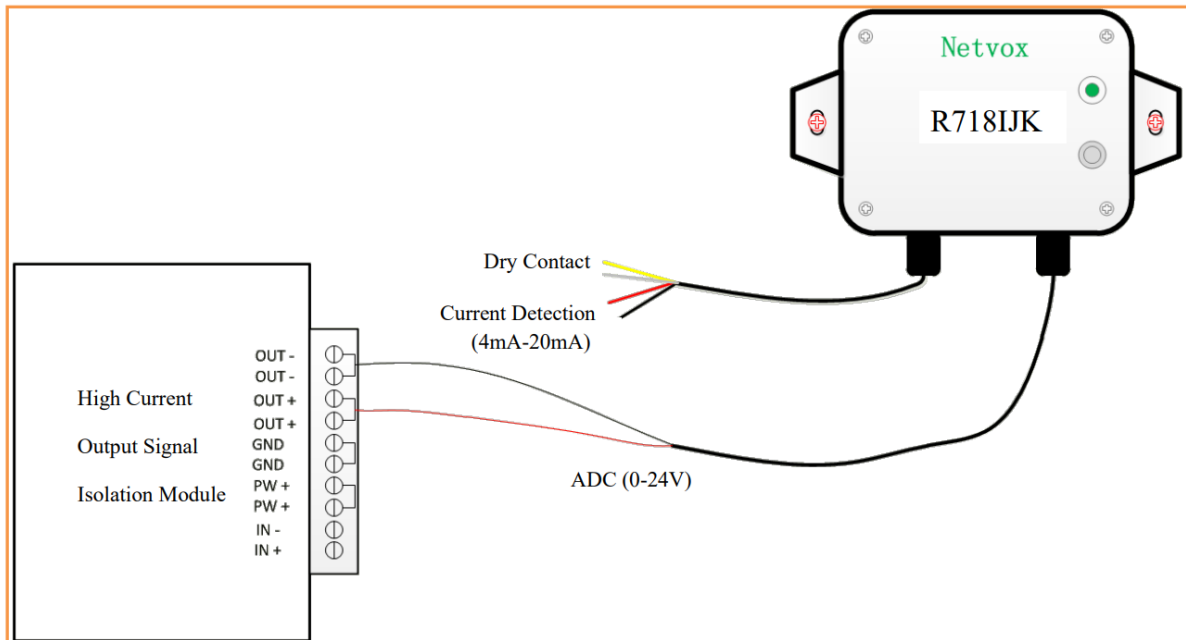
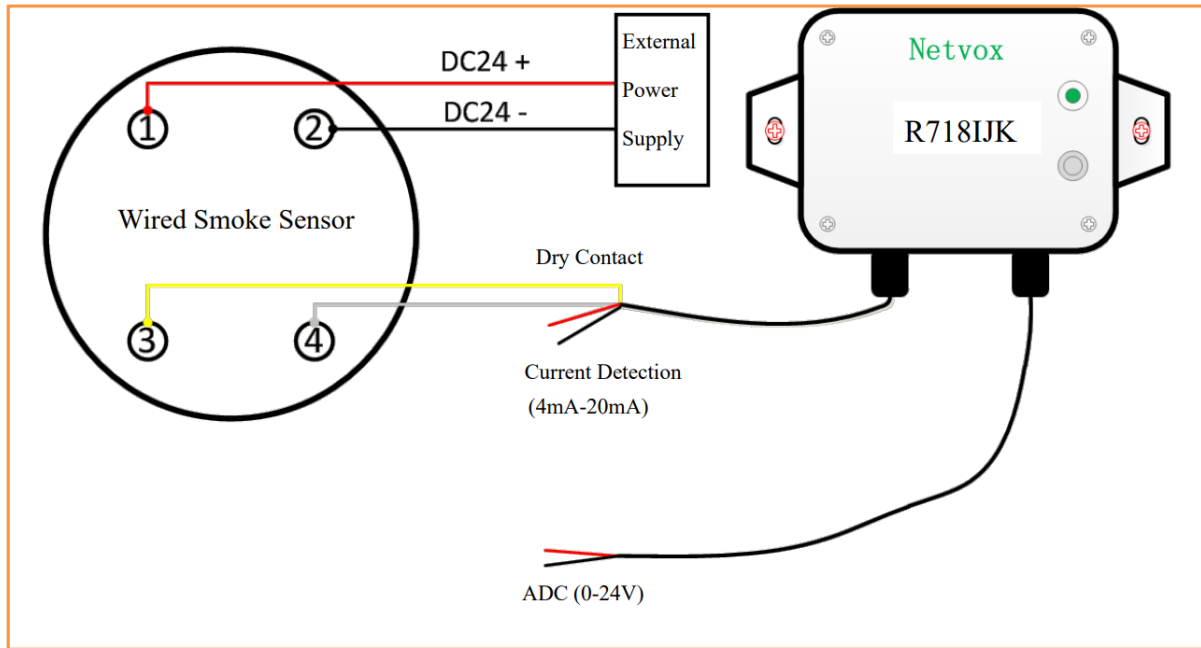
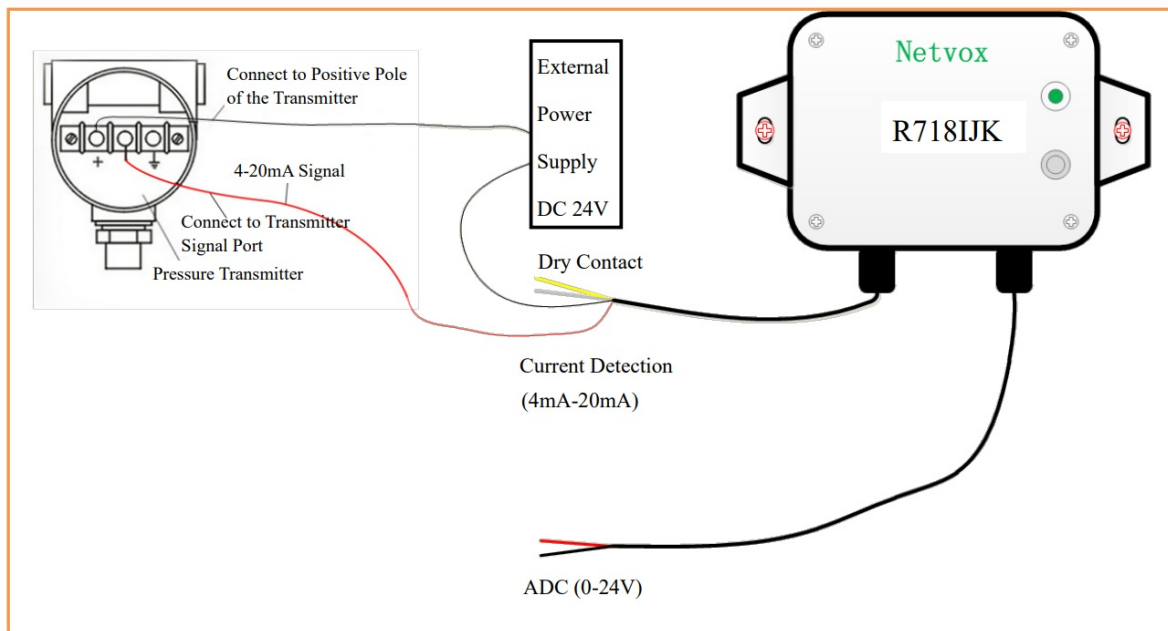
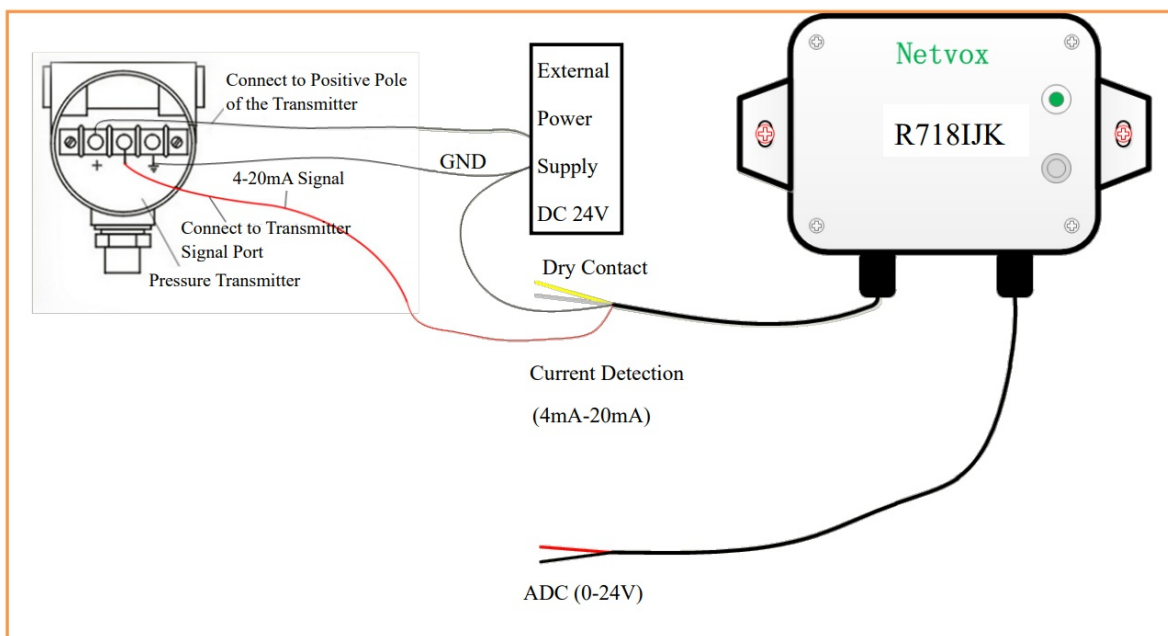

Fig. 1. ADC (0-24V) Detection Wiring Diagram
Fig. 2. Dry Contact Wiring Diagram
Fig. 3. Current Detection 2-Wire Wiring Diagram
Fig. 4. Current Detection 3-Wire Wiring Diagram
1. The ADC sampling line, dry contact sampling, and current sampling line of R718IJK are respectively connected according to the wiring method of Fig. 1, Fig. 2, Fig. 3, and Fig. 4.
- The wiring method of current detection is divided into the 2-wire wiring method and the 3-wire wiring method. Fig. 3 and Fig. 4 below.